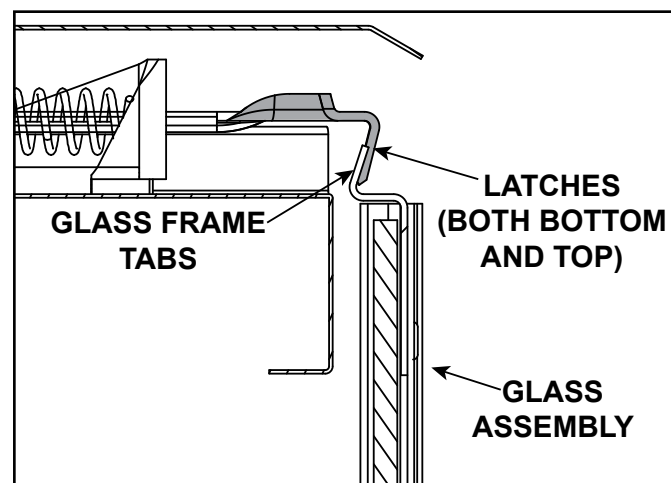

Figure 11.3 Fixed Glass Assembly
- Pull the four glass assembly latches away from the tabs on the glass frame. Remove glass assembly from the appliance. See Figure 11.3.